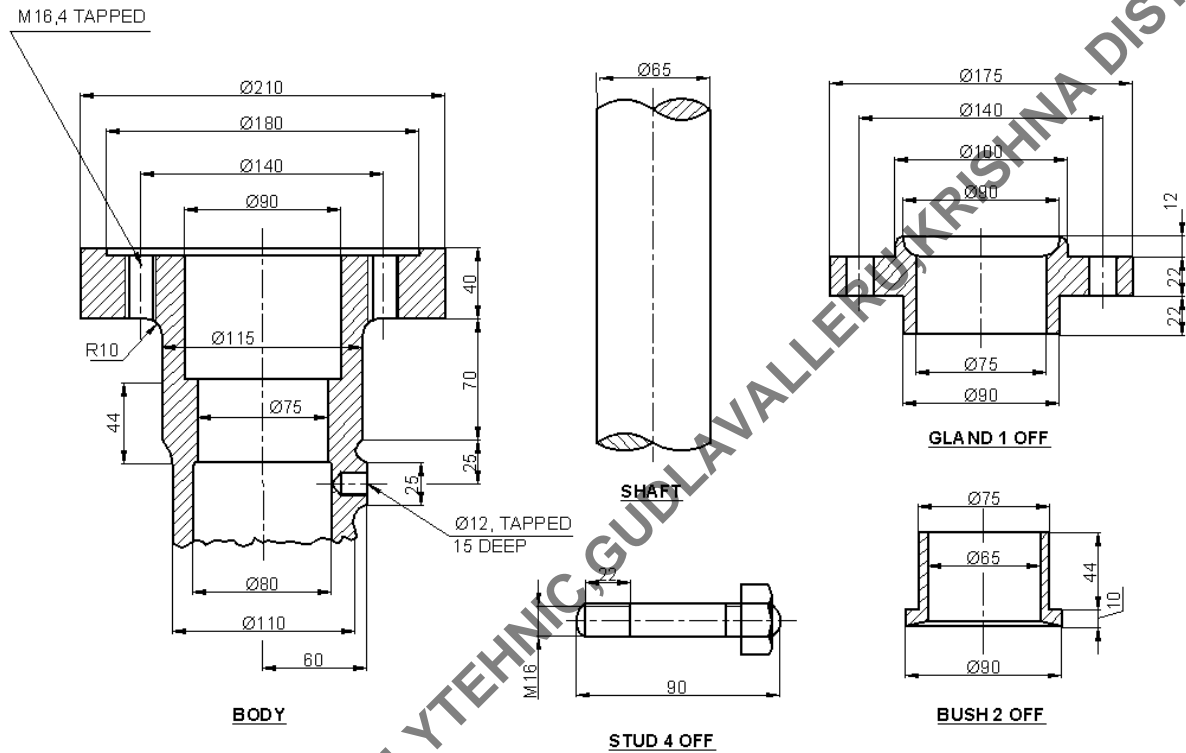

Fig.2 Stuffing Box parts
6) The parts of a Stuffing Box - 65 mm diameter shaft are given in Fig. 2. Assemble all the parts and draw the following views of the assembly to full scale.